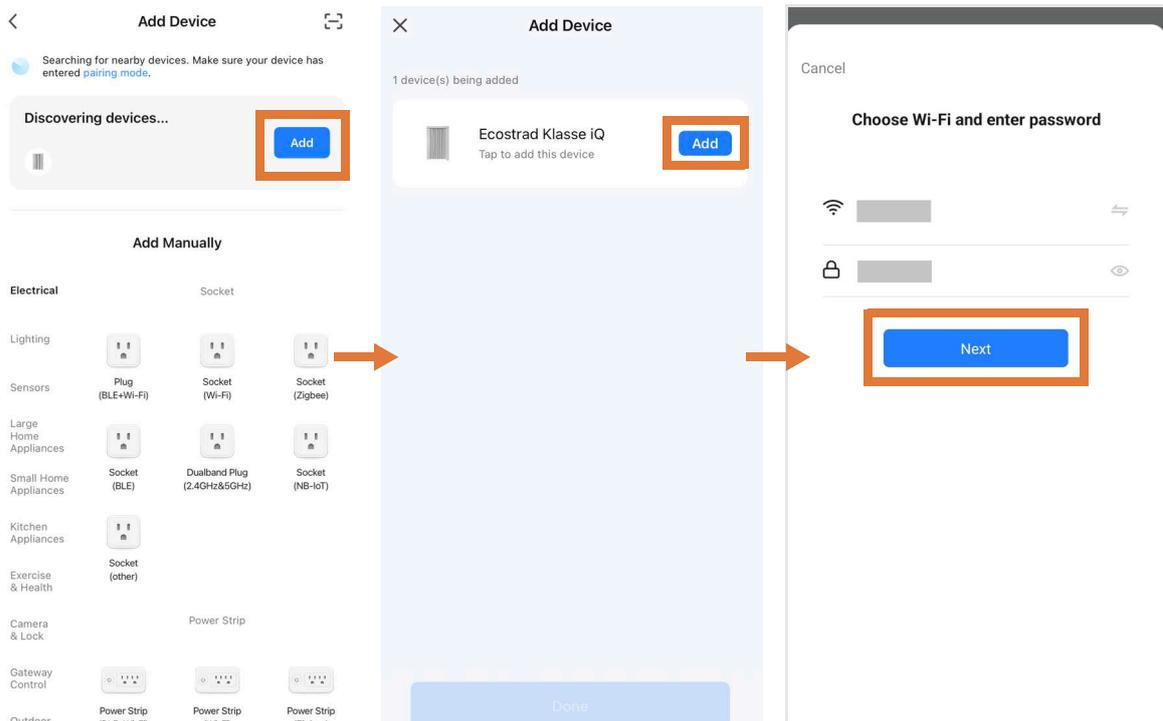

Figure 15 | Finding device on Smart Life app
- The app will demonstrate that it has found the radiator (see **Figure 15**). Press "Add", then tap the **+** icon.